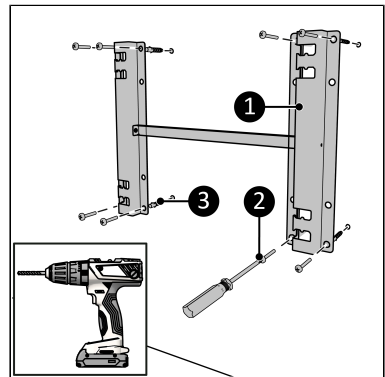

Figure 10.
1. Place the bracket against the wall, with the bracket openings at the left and mark the eight holes (Figure 10).
3. Place wall plugs (Figure 10, pos. 3).
4. Screw and tighten the wall bracket (Figure 10, pos. 1) to the wall with eight large screws using a Phillips screwdriver (Figure 10, pos. 2).